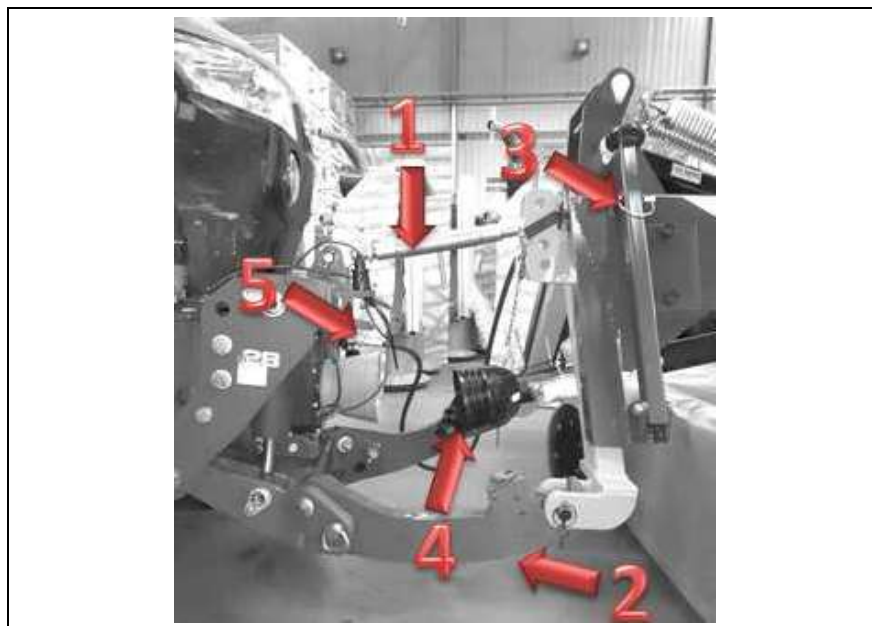

Fig. 4 Coupling the mower to the tractor
The machine is mounted on a three-point hitch suspension system of the tractor. For easier coupling, set the bottom tie-rods, (2) in Fig. 4, to the height of ca. 350mm.
After the machine has been hitched, lift and secure the parking stand (3), connect the coupling (1) in Fig. 4 and adjust its length so it forms an angle of $4\div 5^\circ$ in relation to the ground. Decreasing the angle raises the mowing height. Care must be taken to ensure that the original safety devices are in place. Each time the mower is mounted on the vehicle, check the connecting elements, i.e. pins and plugs, for wear. In case of wearing out replace them with new ones.